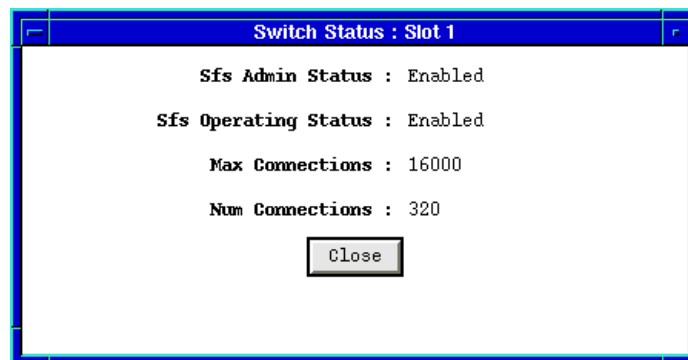

Figure 2-13. Switch Status Window
For devices which have been configured to operate as SecureFast switches, you can view a Switch Status window (Figure 2-13) which provides general information about current switching operations.
2. Click either mouse button on the Display Mode box in the Hub View to launch the Switch menu; drag down to **Status**, and release. The Switch Status window, Figure 2-13, will appear.